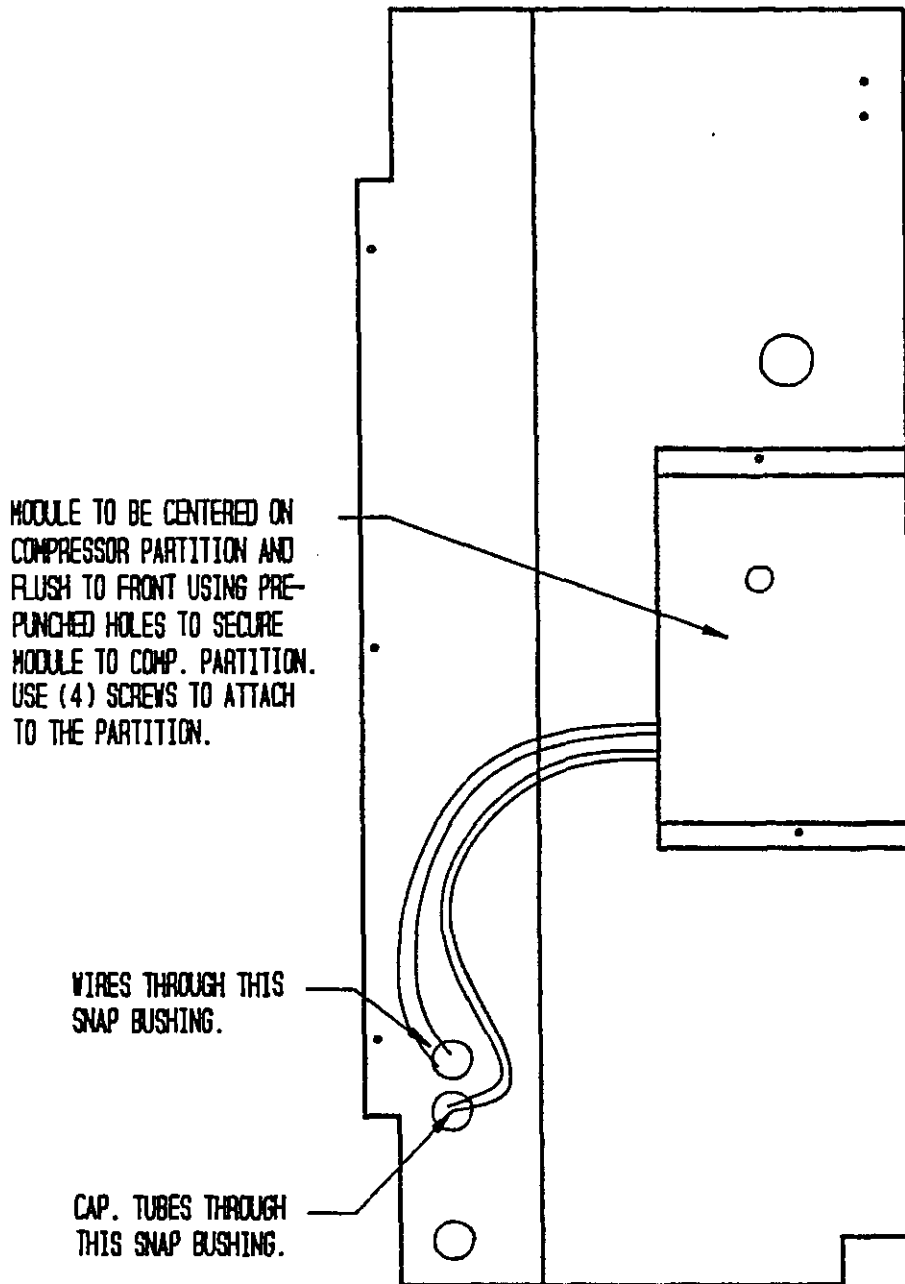

Figure 3.
Install the basic control enclosure centered on the compressor partition above the control panel (see Figure 3). Secure the control enclosure to the compressor partition with (2) #10-16x1/2 screws provided in hardware bag.